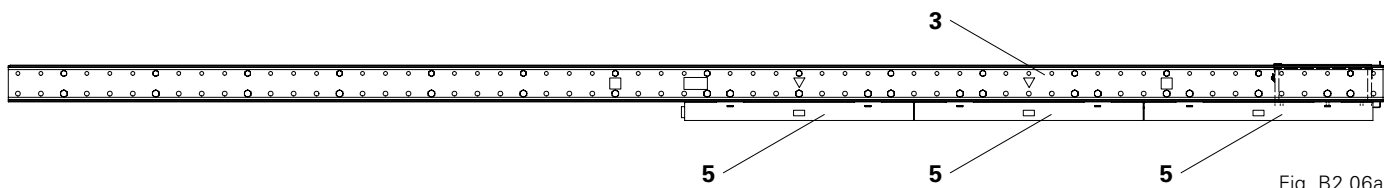

Fig. B2.06a
5. Repeat steps 1 to 4 for all required Platform Panels RCS-MP (5/6). (Fig. B2.06a + B2.06b + B2.04)